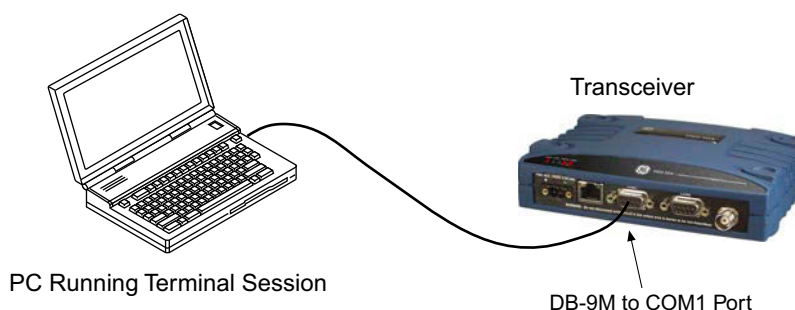

Figure 1. PC Connection to Transceiver
1. Connect a PC to the radio's COM1 serial port as shown in Figure 1. (Maximum recommended cable length: 50 ft./15 m)